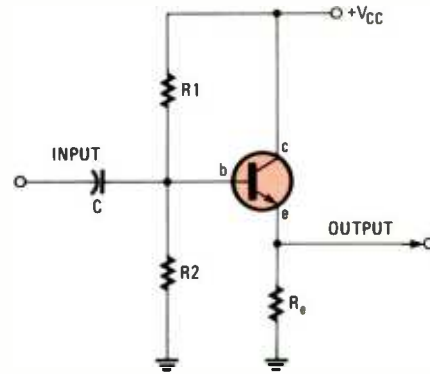

Fig. 17—This is the basic circuit for a common-collector amplifier, also called an emitter-follower amplifier.
A simple common-collector amplifier circuit is shown in Fig. 17. The base bias is derived from R1 and R2 as before, and a resistor R_e is connected between emitter and ground. The output is taken from across this resistor. Note that the collector is connected directly to the supply voltage (V_{cc}); there is no collector resistor. The AC input is applied to the base through a capacitor. Since the power supply's impedance between $+V_{cc}$ and ground is virtually an AC short-circuit, the collector is really at ground as far as AC signals are concerned. The input is applied
The output of the circuit in Fig. 17 is taken from across the _____.
42. (emitter resistor) The voltage gain of the circuit in Fig. 17 is approximately one, actually a little less. Since the gain is essentially one, the output voltage equals the input voltage. This is referred to as *unity gain*. Further, the output is in phase with the input. Because the output is virtually the same as the input, the circuit is referred to as an *emitter follower*.
If the AC input to Fig. 17 is 3 Vrms, the output is _____ volts rms.